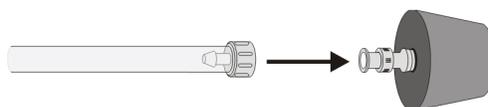

Figure 2
8. Connect the free end of the plastic tubing to the connector in the rubber stopper as shown in Figure 2.